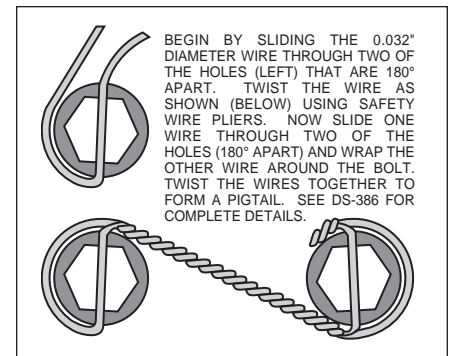

Figure 3. Safety Wire Diagram
- With the larger I.D. side of the rotor (6) facing away from the hat (7), bolt rotor (6) to the hat (7) through the backside of the rotor using washers (8) and bolts (9). Using an alternating sequence, apply red *Loctite*® 271 to the threads and torque bolts to 155 **in-lb**. For an added measure of security, the bolts may be safety wired using standard 0.032 inch diameter stainless steel safety wire as shown in Figure 3. Please refer to Wilwood's data sheet DS-386 (available at www.wilwood.com/Pdf/DataSheets/ds386.pdf) for complete safety wire installation instructions.
- Install washer (14) over each pre-installed stud (13) on the radial mount bracket (1). Slide the caliper (10) in place over the studs and rotor, then install the washer (12) and lock nut (11) to hold the caliper in place. The caliper bleed screws should be pointing up. Snug the lock nuts (11) and check that the rotor (6) is centered in the caliper (10). Add or subtract .029" shims (3) as necessary between the caliper mounting bracket (1) and the spindle to center the caliper (10).
- Remove the caliper center bridge pad retainer bolt, nut, and tube from the caliper. Slide the brake pads (15) into place. They should install easily without interference. Check that the outside radius of the brake pad is aligned with the outside diameter radius of the rotor face. Add or subtract shims (14) between the caliper (10) and mount bracket (1) to gain the proper alignment. Reinstall the center bridge pad retainer tube, bolt, and lock nut. The lock nut should be snug without play in the bolt or tube. Be cautious not to over tighten.
- Once all clearances have been checked, remove the wheel, caliper, hat, and rotor from the spindle and hub. Secure the caliper mounting bracket (1) to the spindle with bolt (2), washers (3), lock washer (4) and nut (5) as done previously using red *Loctite*® 271. Torque bolt (2) to 75 ft-lb. Reinstall the hat and rotor assembly and again using two lug nuts (finger tighten) to hold it in place. Lubricate caliper mounting studs and nuts with lightweight oil, reinstall the caliper, torque the caliper nuts (11) to 30 ft-lb.